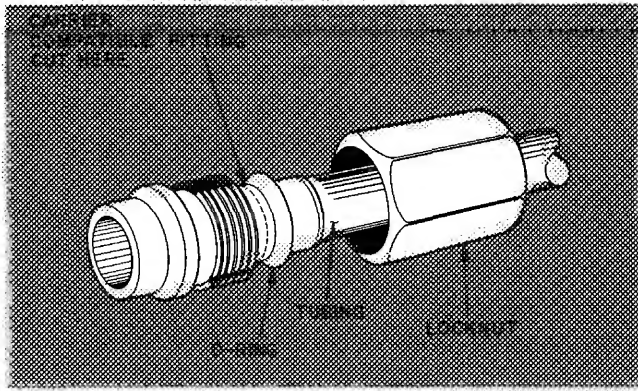

Fig. 25 — Carrier Compatible Fitting
**LEAKING MECHANICAL CONNECTION** — Frontseat outdoor section service valves after relieving refrigerant pressure in system. Back locknut off Carrier Compatible Fitting onto tube. Cut fitting between threads and O-ring shown in Fig. 25. Remove tubing section remaining in threaded portion of fitting. Discard locknut.